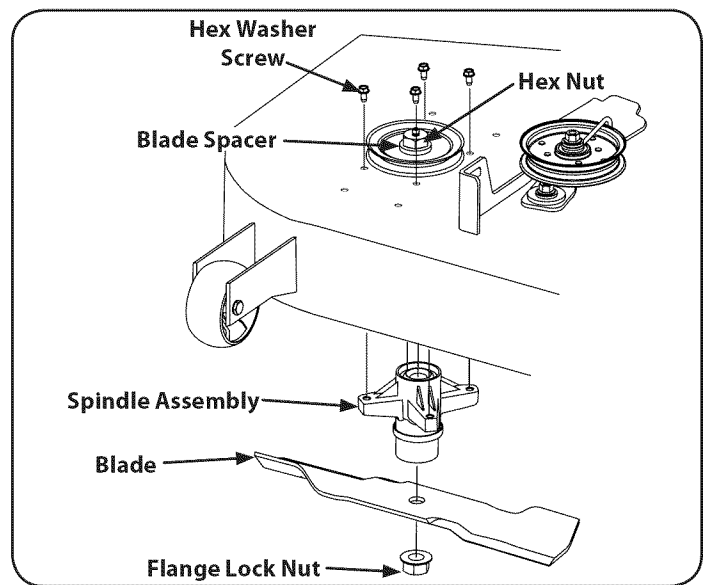

Figure 41
6. Using a wrench or socket ratchet remove four hex nuts, and the four hex head cap screws. Remove the spindle assembly. See Figure 41.